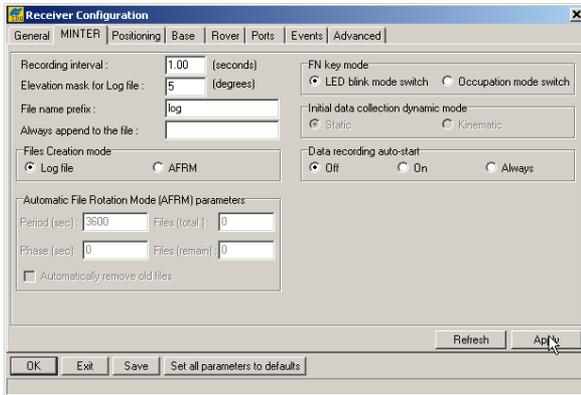

Figure 3-16. Receiver Configuration – MINTER Tab
5. Click **Configuration** ► **Receiver**, and then the **MINTER** tab. Set the following parameters, and click **Apply** (Figure 3-16). See the following pages for descriptions of these parameters.